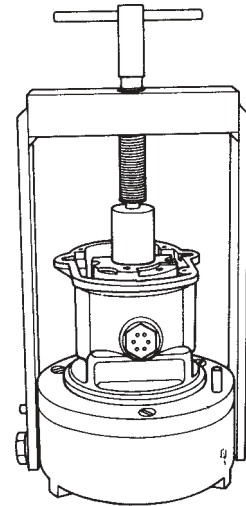

Figure 7.2
- C. Insert rotor and frame assembly plug (T-102) into the T-100 fixture T-handle. (See Figure 7.2.)